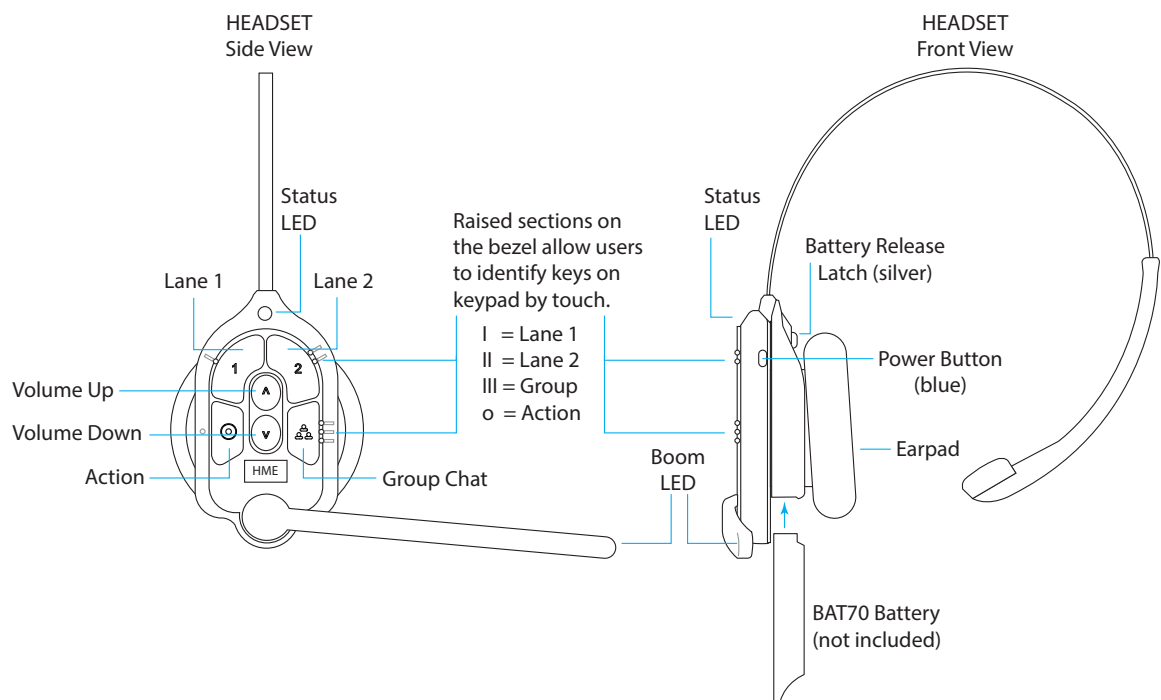

Fig. 6.1
The AIO HS7000 Headset (Fig. 6.1) is an all-in-one headset used to communicate with fellow employees and customers in a drive-thru lane environment. It uses one BAT70 lithium-ion battery. Under normal use, the headset will operate for approximately 8 hours on a single battery charge (new battery) and will alert you when the battery charge is low.
1. With a fully charged BAT70 battery installed. Press the blue power button to turn on the headset (see Fig. 6.1). The status LED turns on green and blinks, alternating between green and red, indicating you now need to pair the headset.